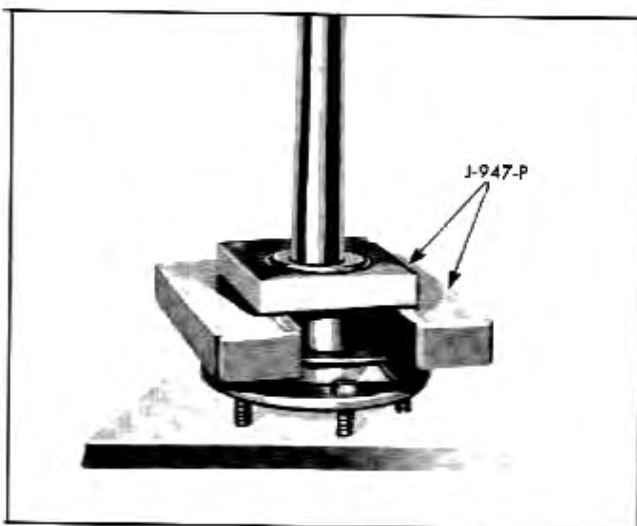

Fig. 4-9 Bearing Replacer Tool J-947-P in Place for Pressing Bearing Off Shaft
3. With tool J-947-P engaging outer race of bearing and ring enclosing bearing (Fig. 4-9), press shaft from bearing in arbor press.